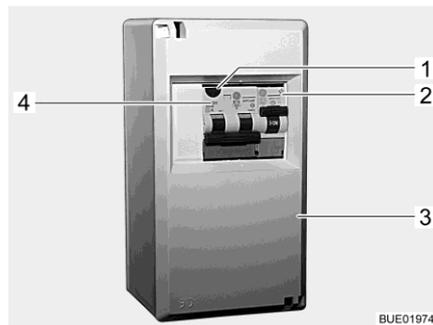
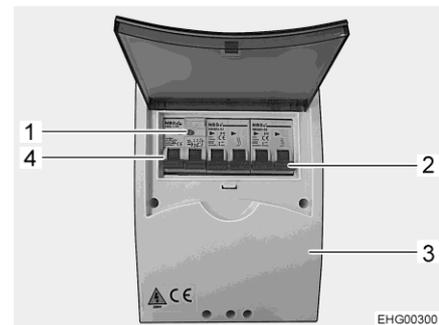

Fig. 205 230 V fuse box
Fig. 206 230 V fuse box (variant)
- Switch off the safety cut-outs (Fig. 205,2, Fig. 205,4 or Fig. 206,2, Fig. 206,4) in the fuse box (Fig. 205,3 or Fig. 206,3).
- When the vehicle is connected to the 230 V supply, press the test button (Fig. 205,1 or Fig. 206,1) of the combined fault current protection switch /safety cut-out (Fig. 205,4 or Fig. 206,4) in the fuse box (Fig. 205,3 or Fig. 206,3). The fault current protection switch must trip.